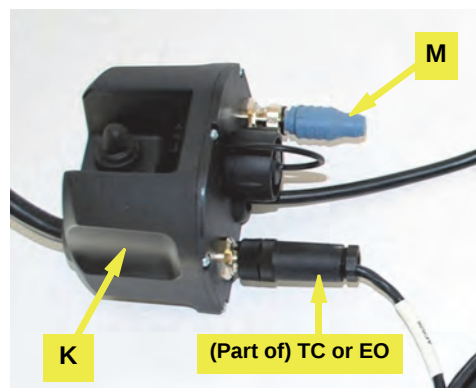

Figure 5d: CAN harness and terminator connected to junction box
- e. Connect the threaded 5-pin connector on the CAN bus harness **TC** (eDriveTC) or **EO** (eDriveX) to either of the threaded connectors on the junction box **K**. Connect the CAN bus terminator **M** to the other threaded connector on the junction box (Figure 5d).